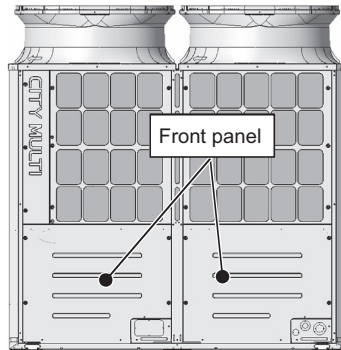

Figure 1
- (1) Remove the front panel from the unit by unscrewing the 14 screws. (See Figure 1.) *Figure 1 shows the unit without the front panel.
- (2) Remove the fin guard by unscrewing the 12 screws. (See Figure 1.)
- (4) Remove the center pillar by unscrewing the five screws. (See Figure 1.)
- (1) Remove the front panel from the unit by unscrewing the 14 screws. (See Figure 1.)